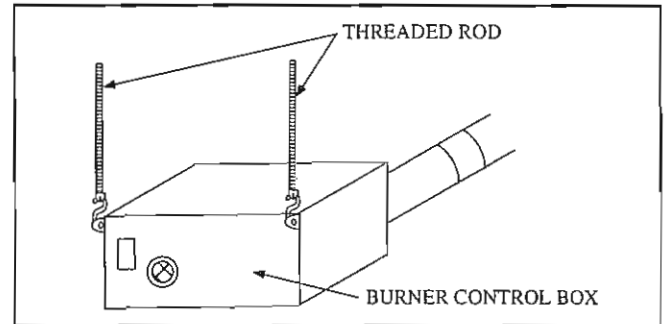

Figure 1-9
**NOTE:** If windy conditions exist in the space around the heater, it may be necessary to rigidly mount the heater to prevent swaying. It is recommended that threaded rod be used for the two hanging points at the burner control box (see Figure 1-9). The remaining hanging points should use chains to allow for heater expansion.